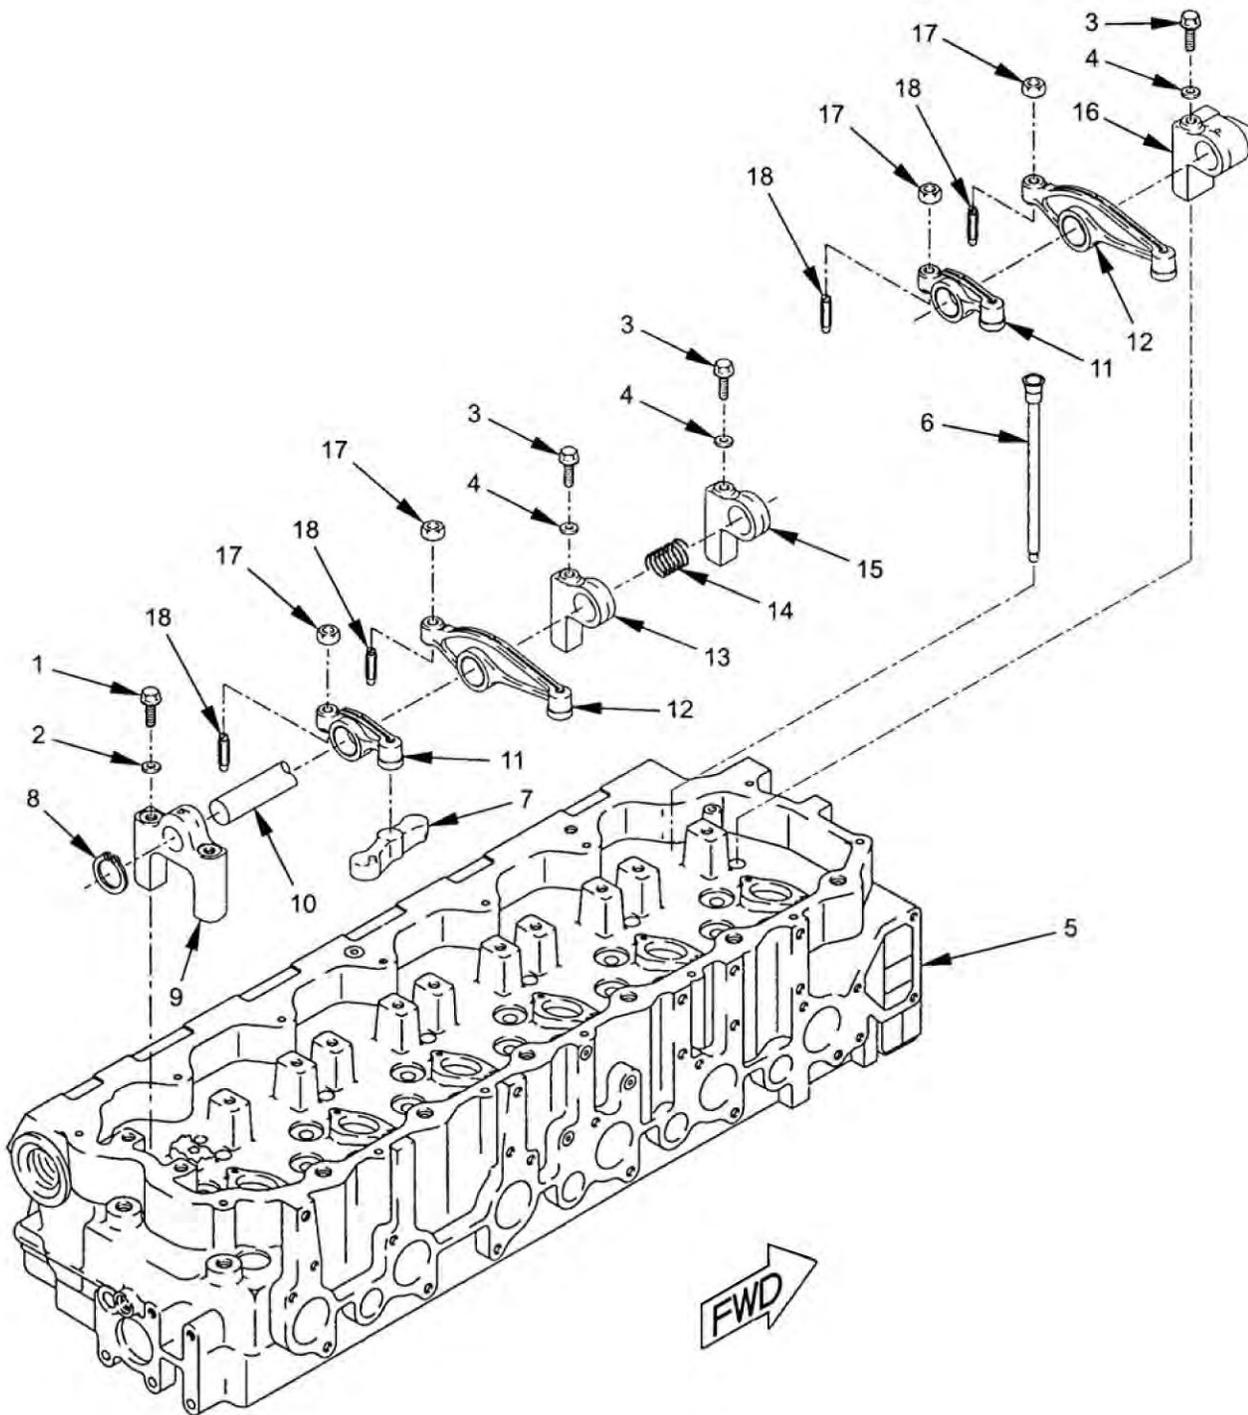

Figure 1. Rocker Shaft and Pushrods Removal and Installation.
1. Remove two bolts (Figure 1, Item 1) and washers (Figure 1, Item 2) from rocker shaft assembly.
2. Remove 11 bolts (Figure 1, Item 3), washers (Figure 1, Item 4), and entire rocker shaft assembly from cylinder head (Figure 1, Item 5).
3. Remove 12 pushrods (Figure 1, Item 6) from cylinder head (Figure 1, Item 5).
- Remove six inlet valve bridges (Figure 1, Item 7) from cylinder head (Figure 1, Item 5).
1. At rear end of rocker shaft assembly, remove retaining ring (Figure 1, Item 8) and stand (Figure 1, Item 9) from rocker shaft (Figure 1, Item 10).
2. Remove inlet rocker arm (Figure 1, Item 11), exhaust rocker arm (Figure 1, Item 12), stand (Figure 1, Item 13), spring (Figure 1, Item 14), and stand (Figure 1, Item 15).
3. At front end of rocker shaft assembly, remove inlet rocker arm (Figure 1, Item 11), exhaust rocker arm (Figure 1, Item 12), and stand (Figure 1, Item 16).
4. Remove 12 nuts (Figure 1, Item 17) and adjustment screws (Figure 1, Item 18) from six inlet rocker arms (Figure 1, Item 11) and six exhaust rocker arms (Figure 1, Item 12).
1. Install 12 adjusting screws (Figure 1, Item 18) and nuts (Figure 1, Item 17) on six exhaust rocker arms (Figure 1, Item 12) and six inlet rocker arms (Figure 1, Item 11).
2. At front end of rocker shaft assembly, install stand (Figure 1, Item 16), exhaust rocker arm (Figure 1, Item 12), and inlet rocker arm (Figure 1, Item 11).
3. Install stand (Figure 1, Item 15), spring (Figure 1, Item 14), stand (Figure 1, Item 13), exhaust rocker arm (Figure 1, Item 12), and inlet rocker arm (Figure 1, Item 11). Repeat for next four sets of rocker arms.
4. At rear end of rocker shaft assembly, install stand (Figure 1, Item 9) and retaining ring (Figure 1, Item 8).
1. Install six inlet valve bridges (Figure 1, Item 7) on cylinder head (Figure 1, Item 5).
2. Install 12 pushrods (Figure 1, Item 6) in cylinder head (Figure 1, Item 5).
3. Position entire rocker shaft assembly on cylinder head (Figure 1, Item 5) and install 11 washers (Figure 1, Item 4) and bolts (Figure 1, Item 3).
4. Install two washers (Figure 1, Item 2) and bolts (Figure 1, Item 1) on stand (Figure 1, Item 9).